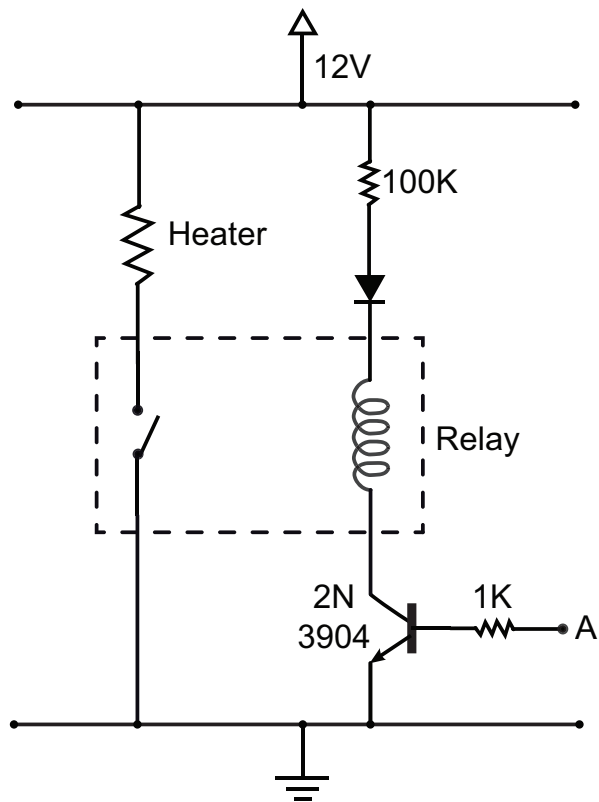
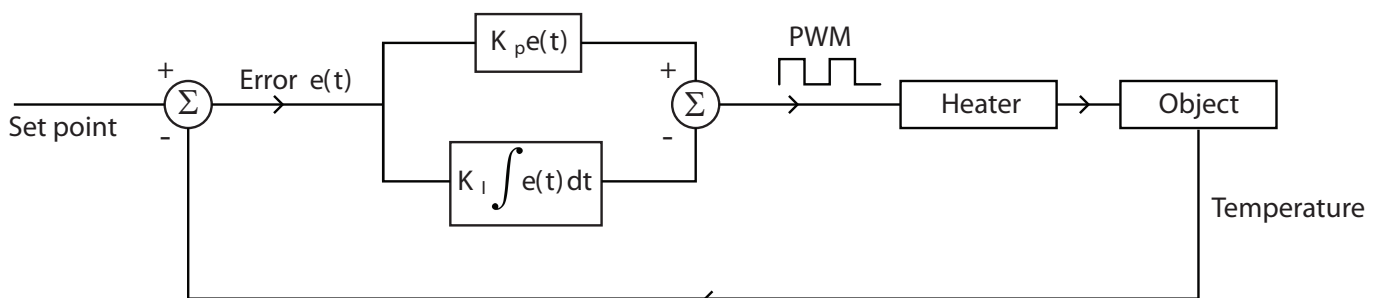

Figure 10: Circuit for actuating the heater under instructions from the computer.
Figure 11: Feedback algorithm for implementing PI control on the temperature of the heating element.
13. Construct a graphical program that can help achieve a desired temperature for the thermal object. the heater is actuated by a pulse-width modulated (PWM) square wave whose duty cycle d is controllable. The DAQ card supplies a switching signal to a transistor that helps operate a relay and hence, the heater supply current is indirectly modulated. The data acquisition device itself is not capable of delivering high power to the ≈ 25 W heater. The circuit diagram that switches on a relay through a transistor and hence provides variable d to the heater is shown in Fig. 10. The conceptual diagram that illustrates the control mechanism is shown in Fig. 11. Our PI algorithm will exercise control over the variable d .